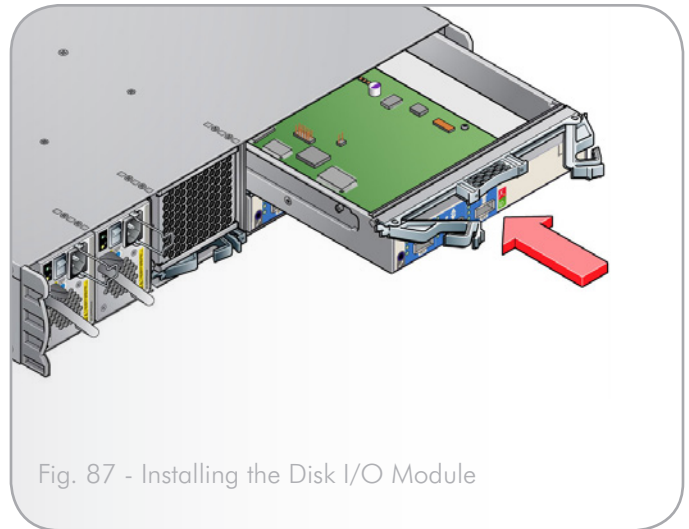

Fig. 87 - Installing the Disk I/O Module
2. With the latches in the open position (see Fig. 87), slide the Disk I/O module into the enclosure until the latches engage automatically.